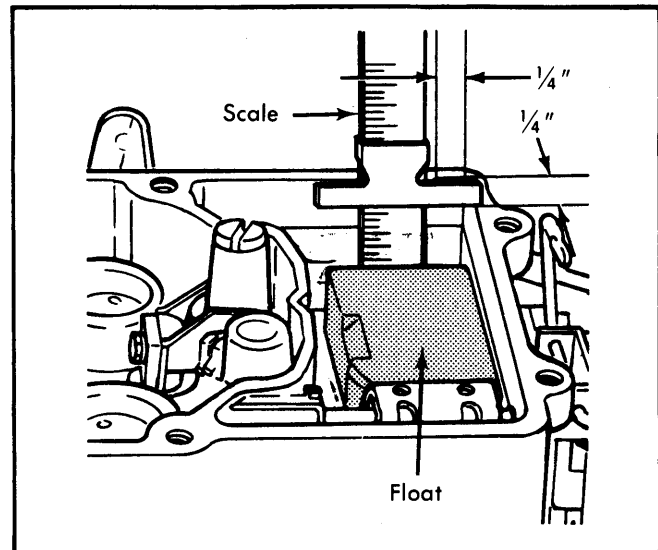

Fig. 5 Float Level Adjustment (Wet Setting)
3) Using "T" scale, measure distance from machined surface of main body to level of fuel in fuel bowl. Make measurement at least $\frac{1}{4}$ " away from sides of bowl for accurate readings. See Fig. 5.